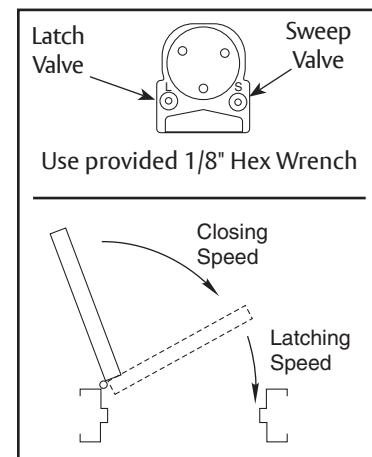

Figure 11
3. Adjust closing speed. (Figure 11)
4. Adjust latch speed. (Figure 11)